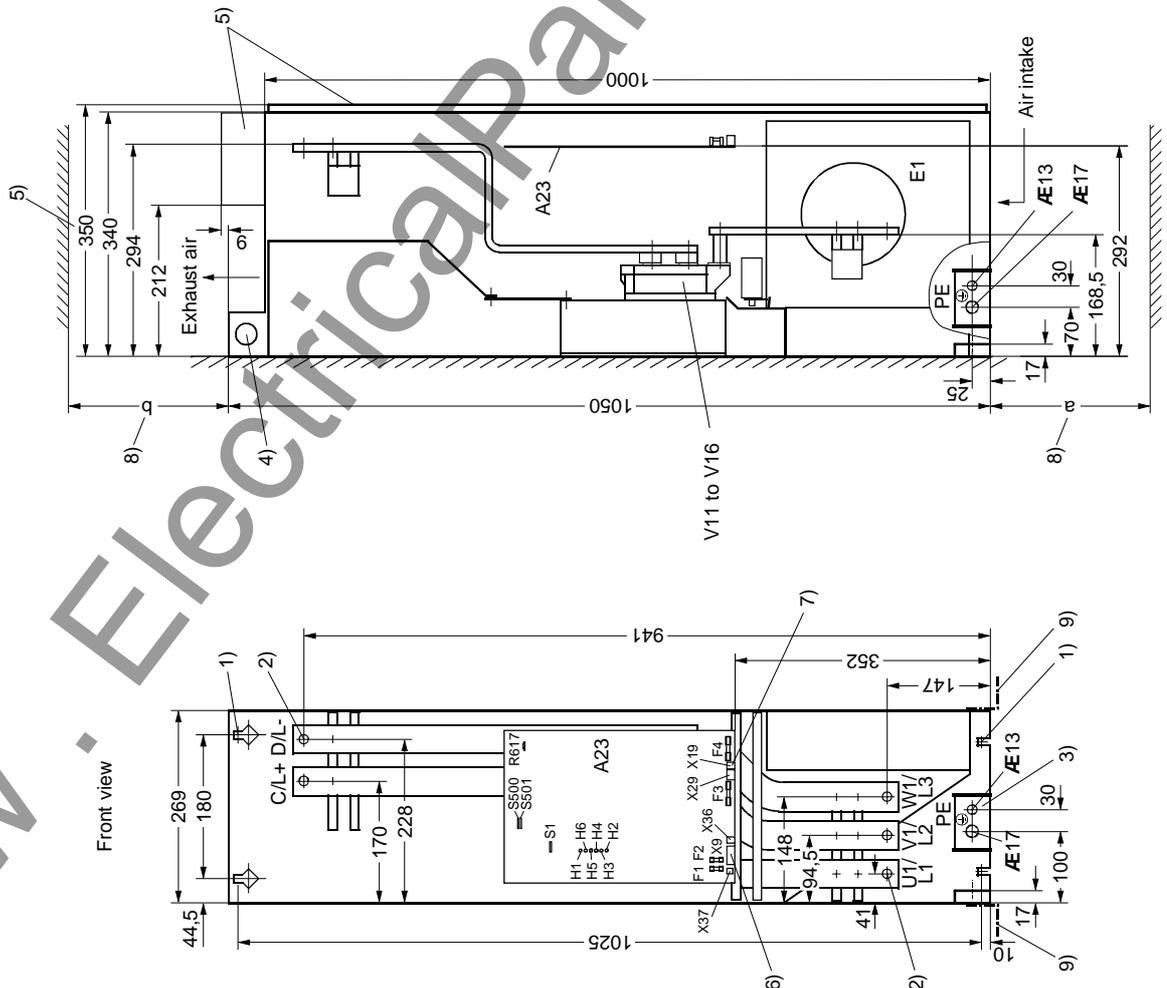

Figure 2.2 Dimension drawing Size E
- ◆ dimension drawing (figure 2.2 for size E)